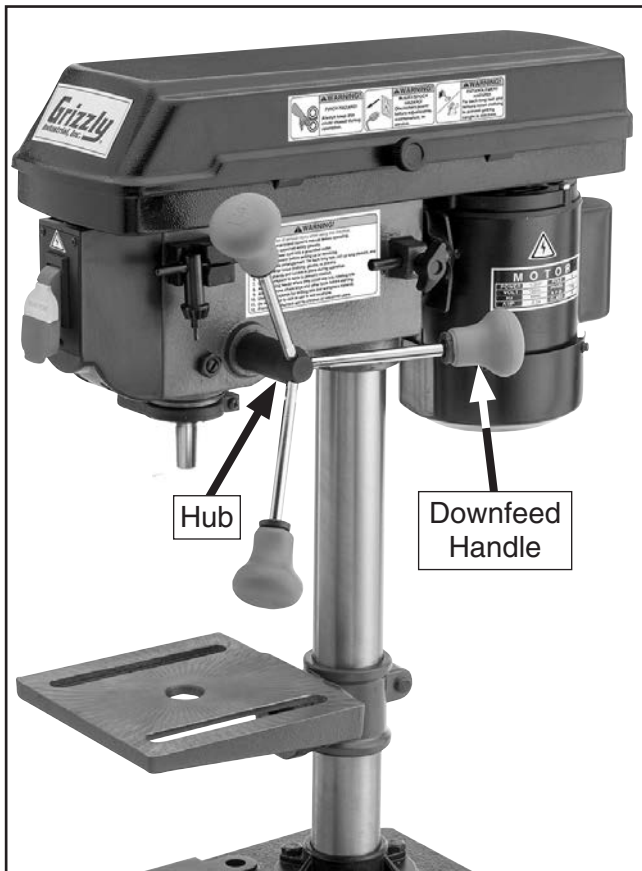

Figure 13. Downfeed handles installed in hub.
5. Thread (3) downfeed handles into downfeed hub, as shown in **Figure 13**.